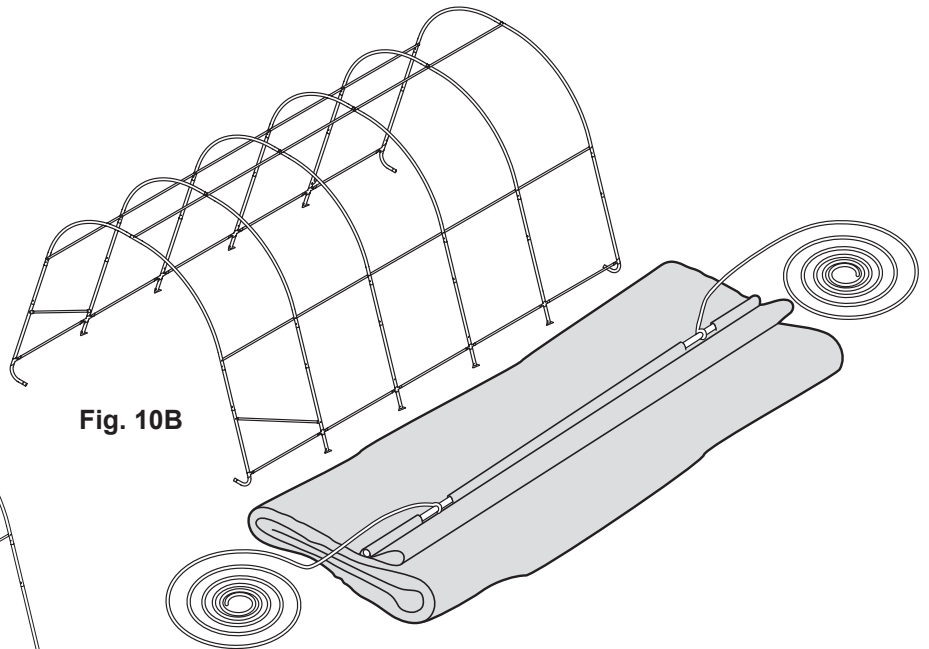

Fig. 10B
2. Fold over the side closest to the frame so the pipe pocket is now accessible. Insert a cover pipe at the first middle rib from the front and the first middle rib from the rear so that it is inserted in the pipe pocket on both ends of the pipe but the center of the pipe is exposed. For long buildings it may be necessary to use additional pipes in the middle. Fig. 10B